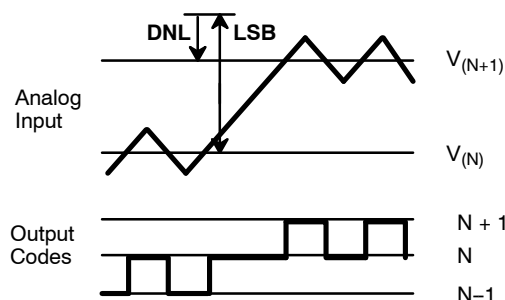
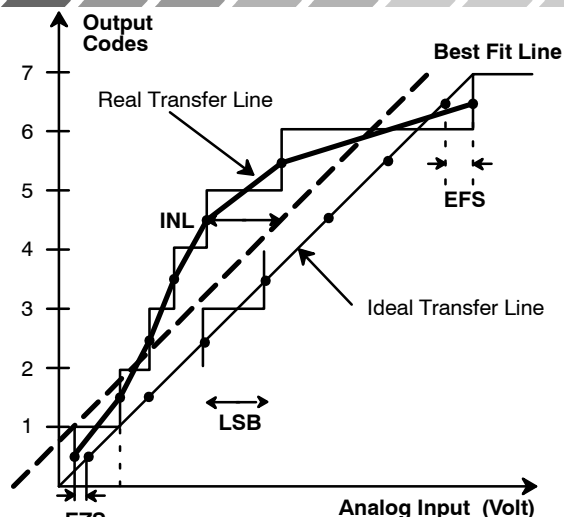

Figure 2. DNL Measurement
Figure 3. INL Error Calculation
- Tester measures code transitions by dithering the voltage of the analog input (V_{IN}). The difference between the measured and the ideal code width ($V_{REF}/256$) is the DNL error (Figure 2.). The INL error is the maximum distance (in LSBs) from the best fit line to any transition voltage (Figure 3.). Accuracy is a function of the sampling rate (FS).